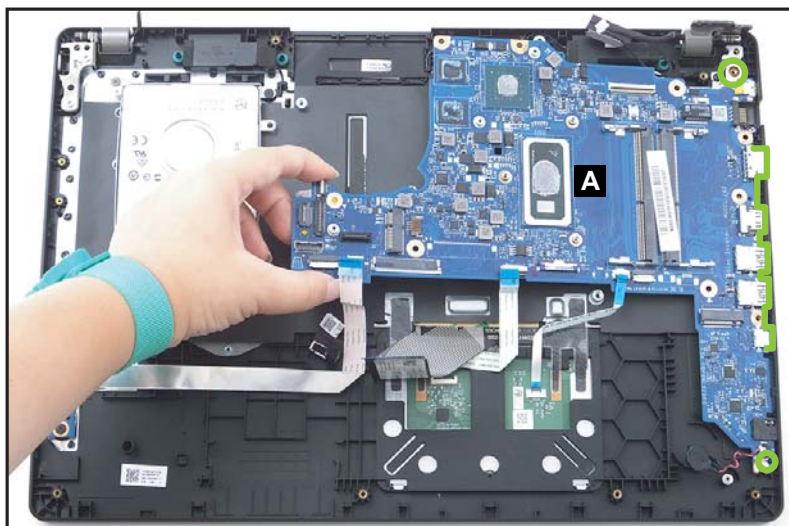

Figure 1-87. Replacing the Mainboard
1. Place the mainboard (A) onto the top assembly (Figure 1-87).